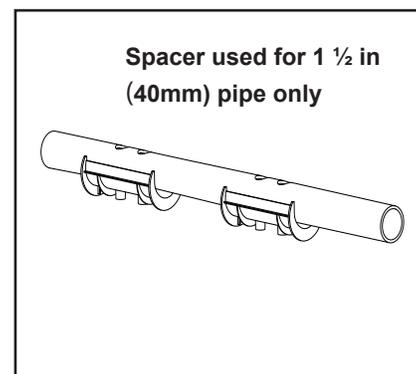

Figure 9. Pipe Spacer
8. Use the pipe spacer as shown if mounting on a 1½ in. (40mm) pipe (see Figure 9).